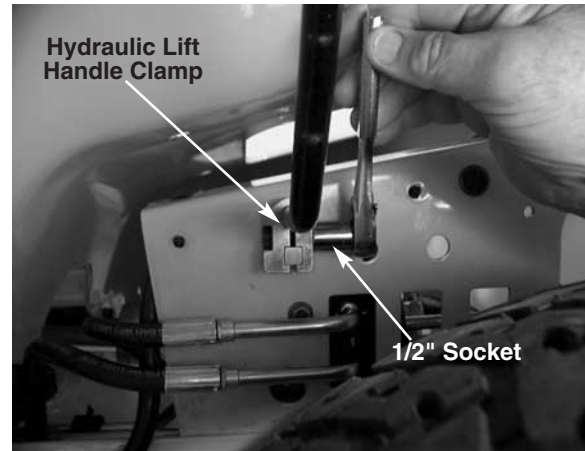

FIGURE 7.
15. Raise the rear fender high enough to access the hydraulic lift handle clamp. See figure 7.
16. Loosen the clamp connecting the hydraulic lift handle to the center lift valve using a 1/2" socket. See figure 7.